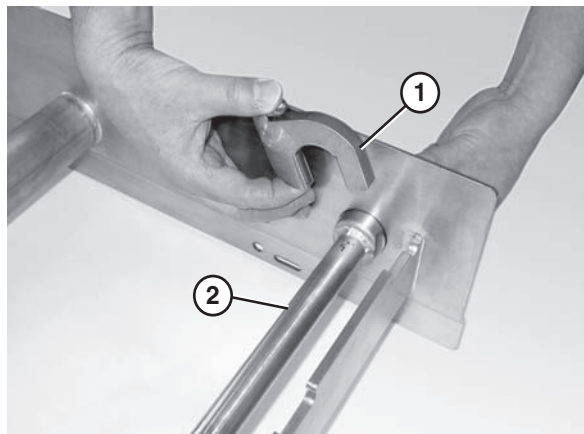

Figure 16
2. Attach the key stops (Figure 16, item 1) to the tip up shaft (Figure 16, item 2). The rounded end of the key stop should be facing the tail.